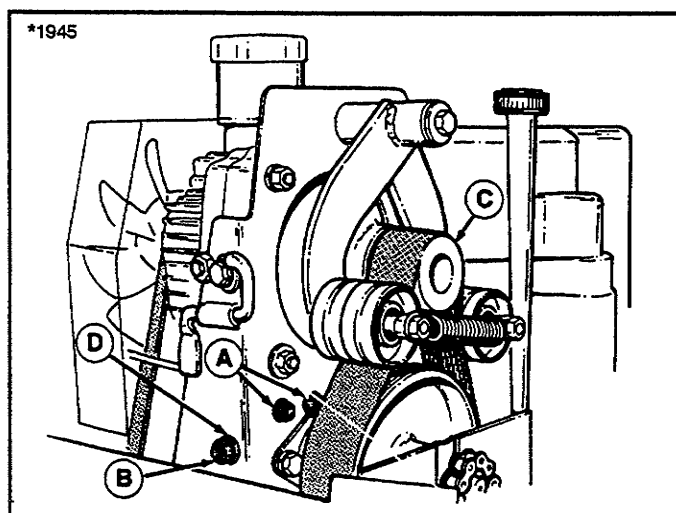

Figure 33. Neutral Adjustment
2. Loosen the two capscrews (A, figure 33).
5. See figure 33. Loosen the jam nut (B). Turn the inner nut (D) either left or right until the output pulley (C) stops turning.
6. Tighten the two capscrews (A, figure 33). Tighten the jam nut (B) against the inner nut (D).